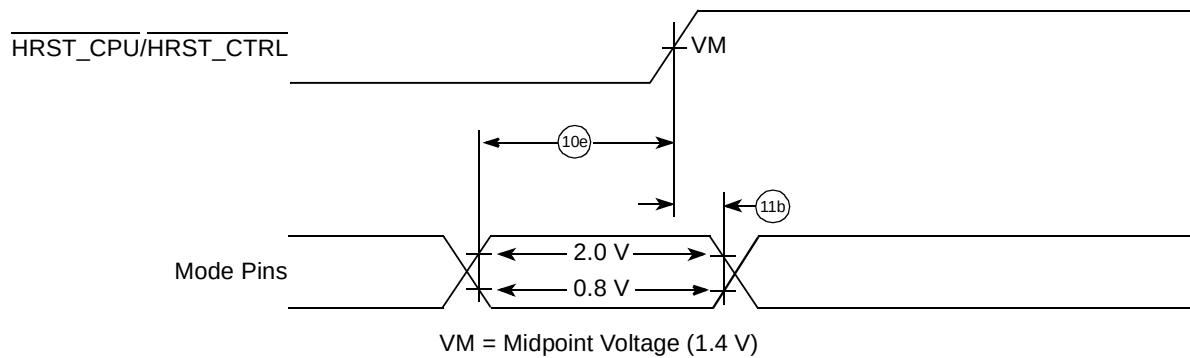

Figure 13. Input Timing Diagram for Mode Select Signals
- All mode select input signals specifications are measured from the TTL level (0.8 or 2.0 V) of the signal in question to the VM = 1.4 V of the rising edge of the HRST_CPU/HRST_CTRL signal. See Figure 13.
Figure 13 shows the input timing diagram for mode select signals.